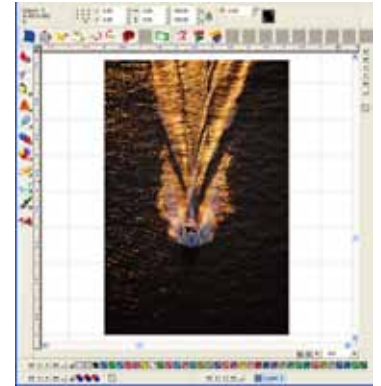

Fig. 15 - We want a metallic effect to all the highlights, except for the boat itself and its immediate wake.
2. Use **File** menu >> **Import** to load the “Boat.JPG” file from the clipart directory (Fig. 15).